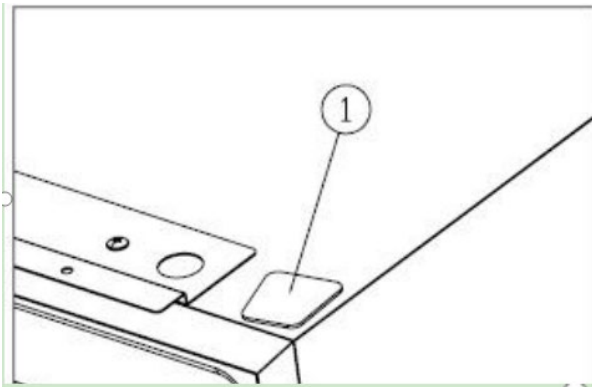

Figure 4
- ✧ Install the germinal lid ①.[Figure 4]